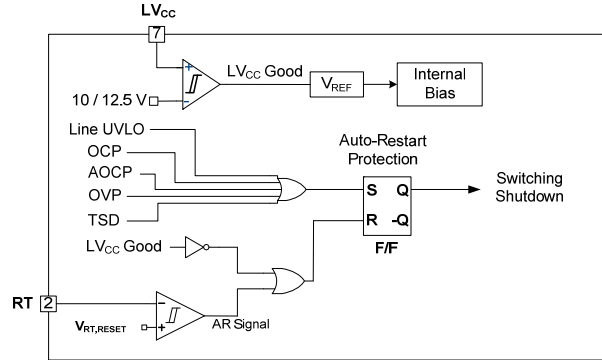

Figure 24. Protection Blocks
**5. Protection Circuits:** The FSFR-HS series has several self-protective functions; such as Over-Current Protection (OCP), Abnormal Over-Current Protection (AOC), Over-Voltage Protection (OVP), Thermal Shutdown (TSD), and Line Under-Voltage Lockout (LUVLO or Brownout). These protections are Auto-Restart Mode protections, as shown in Figure 24.